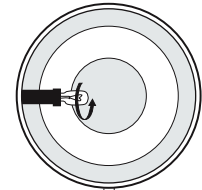

Figure 2
3. Unscrew the old bulb and replace with the new bulb (Fig. 2).